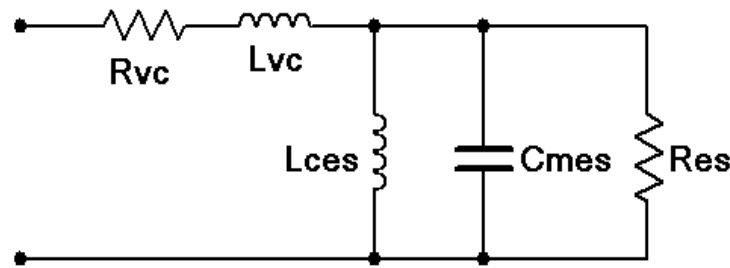

Figure 15.1
1. Figure 15.1 shows a typical model of a dynamic moving voice coil loudspeaker mounted on an infinite baffle1.  $R_{vc}$  and  $L_{vc}$  represent the resistance and inductance of the voice coil.  $L_{ces}$  represents the driver compliance (i.e., springiness of suspension and air),  $C_{mes}$  represents the driver's mass, and  $R_{es}$  represents the frictional losses of the suspension. At DC, the impedance will equal  $R_{vc}$ . At high frequencies  $L_{vc}$  will dominate the response. The parallel resonant portion will create an impedance peak in the bass. This is normally referred to as the free air resonance of the driver, or  $f_s$ .
7. Swap the woofer with the general purpose loudspeaker and repeat steps 2 through 6 using Tables 15.4 through 15.6. Plot the magnitude and phase of each device on semi-log paper. Also, try to estimate values for the schematic model of Figure 15.1.